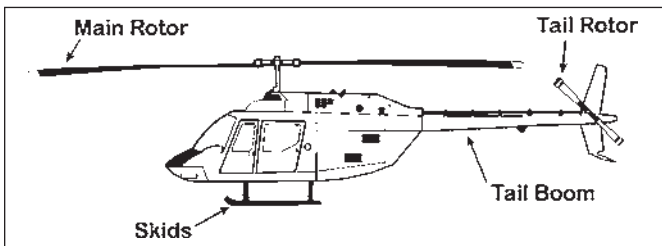

Figure 1
- Use extreme caution if you approach and leave a helicopter with the rotors turning. The rotors are flexible and generally 2.5 metres above the skids of the helicopter. This clearance can be greatly reduced if the ground is uneven, in gusty or windy conditions, or if the engine is running down or idling. (Figure 1)